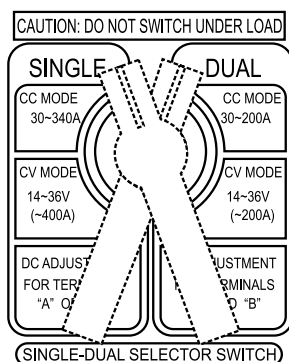

Figure 38. Single-Dual Selector Switch
- Place the welding mode selector switch (Figure 38) in either the **single** or **dual** mode position.